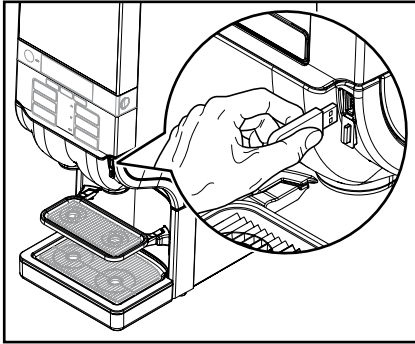

Fig. 34
- Insert the supplied USB key into the USB port on the dispenser (fig. 34).